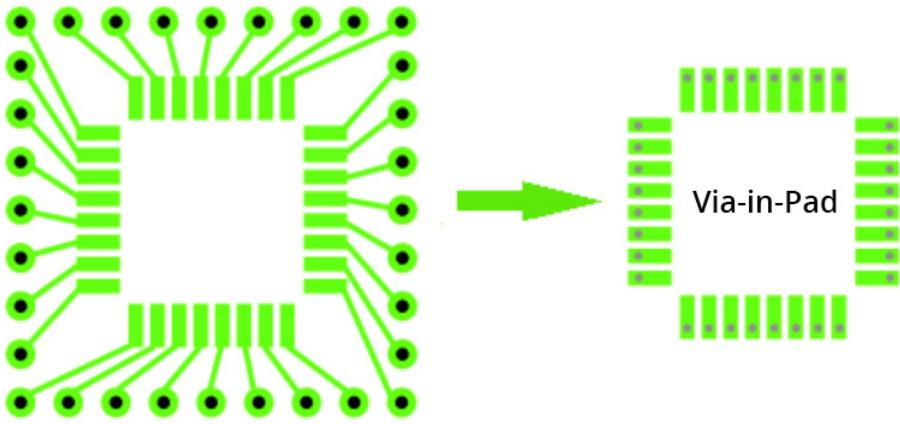

Figure 1-3: Conversion of QFP configuration to via-in-pad.
- Via-in-pad technology (Figure 1-3)